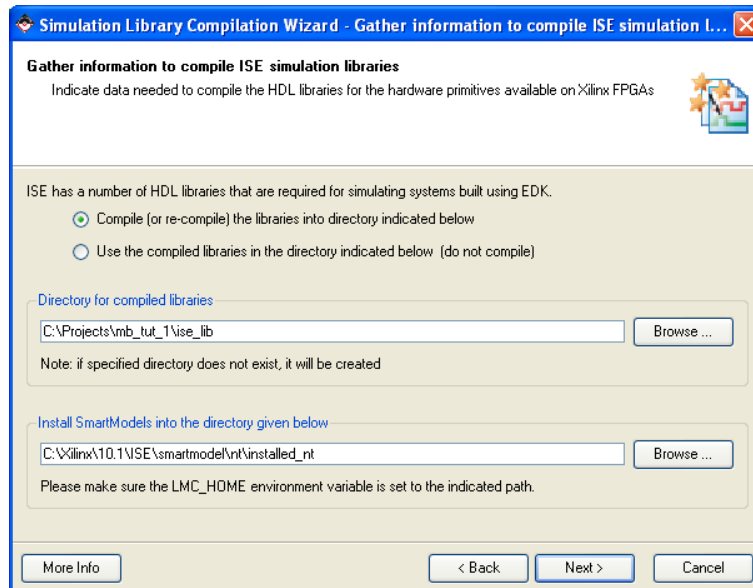

Figure 6: Simulation Library Compilation Wizard - Information to compile ISE simulation models
- The fourth screen of the wizard is used to select the directory in which ISE simulation models are compiled as shown in Figure 6. You can select any location to store the library files. As mentioned earlier the library could be used by any design for simulation, so selecting the library location is important. **Select a suitable location and Click Next**.